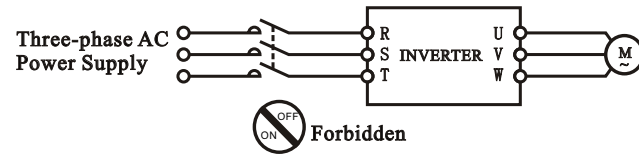

Fig. 1-5
- DO NOT proceed direct start-stop operation frequently with a contactor or any other switch devices in the inverter input side. As large charging current exists in the main circuit of the inverter, frequent power-on/off may produce cumulative effect resulting in heat fatigue of inverter components and great reduction of service life of the inverter. See the detail in Figure 1-5.